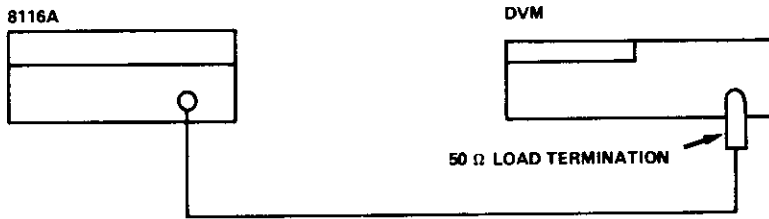

Figure 4-16. Test setup for DC Voltage
1. Connect the equipment as shown in Figure 4-16.